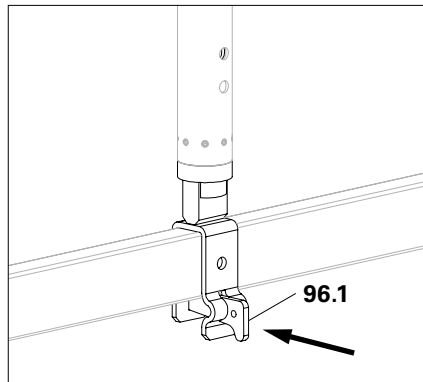

Fig. A11.12e
5. Tighten all wedges (**96.1**). (Fig. A11.12e)